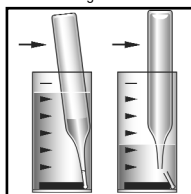

Figure 3
3. Place the CHEMet ampoule, tip first, into the sample cup. Snap the tip. The ampoule will fill leaving a tiny bubble for mixing (fig. 3).